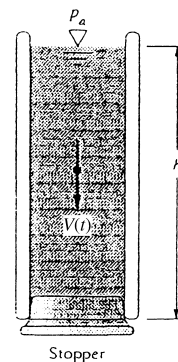

Fig. P3.90
3.90 As shown in Fig. P3.90, a liquid column of height h is confined in a vertical tube of cross-sectional area A by a stopper. At $t = 0$ the stopper is suddenly removed, exposing the bottom of the liquid to atmospheric pressure. Using a control-volume analysis of mass and vertical momentum, derive the differential equation for the downward motion $V(t)$ of the liquid. Assume one-dimensional, incompressible, frictionless flow.